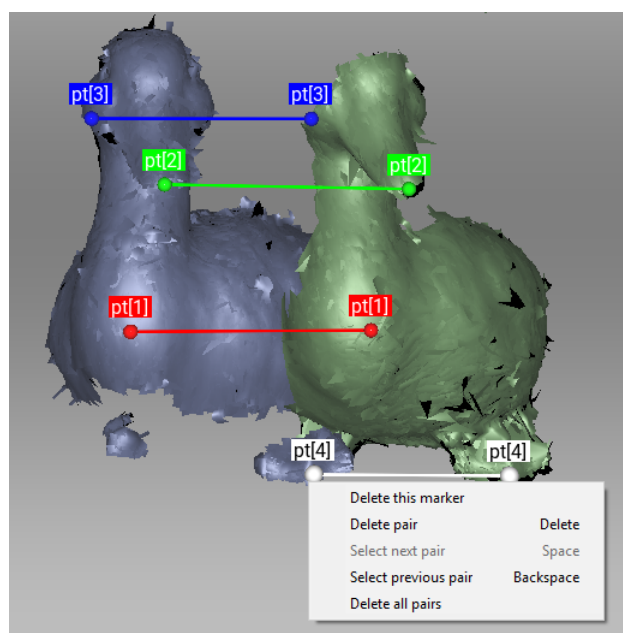
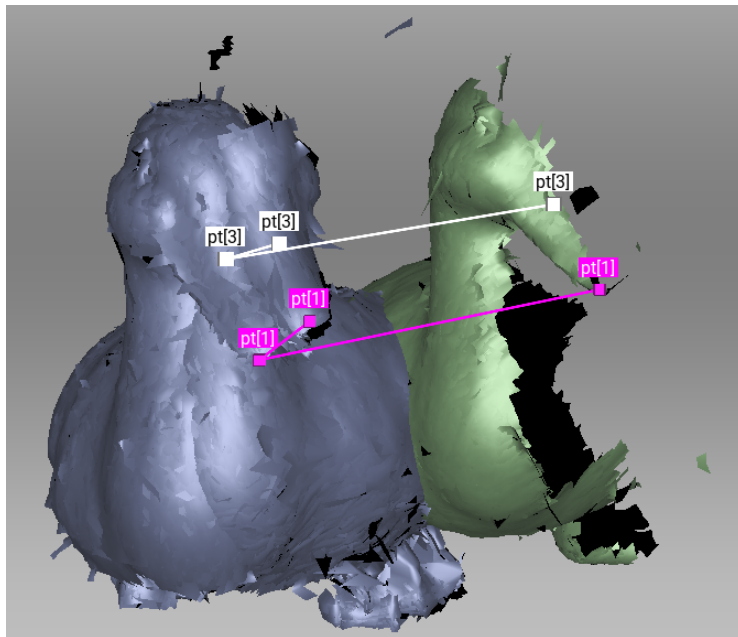

Figure 81: Creation of point pair.
Figure 87: Before alignment: two point-set added.
When specifying points in the *Rigid* and *Nonrigid* modes, the application automatically creates pairs. Having specified one pair, you can immediately create the next one. In *Complex* mode you must confirm set creation by hitting *Space* or by clicking *New set* from the left panel, because the set may comprise multiple points (see Figure 81 and Figure 87).
3. Specify several point pairs (Figure 81), keeping in mind the recommendations from *Specifying Points and Editing Their Positions*.
3. Specify one or more point sets on the scan surface (see Figure 87), keeping in mind the recommendations in *Specifying Points and Editing Their Positions*.